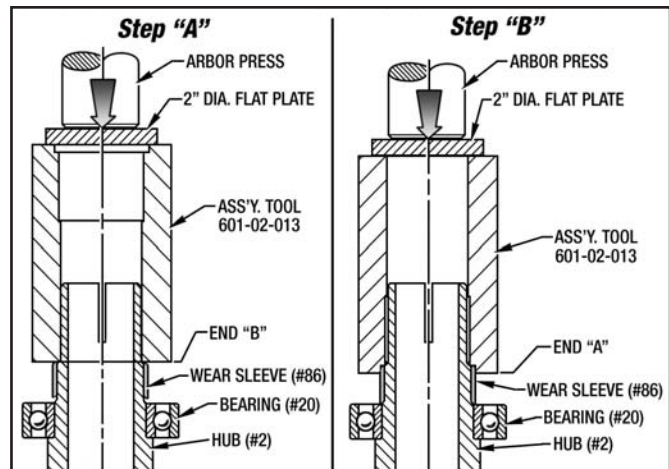

Figure 9.2 - Installing Rear Wear Sleeve (#86)
6. Install the Rear Wear Sleeve (#86) on to the Hub (#2) with the following procedure and as shown in *Figure 9.2*: